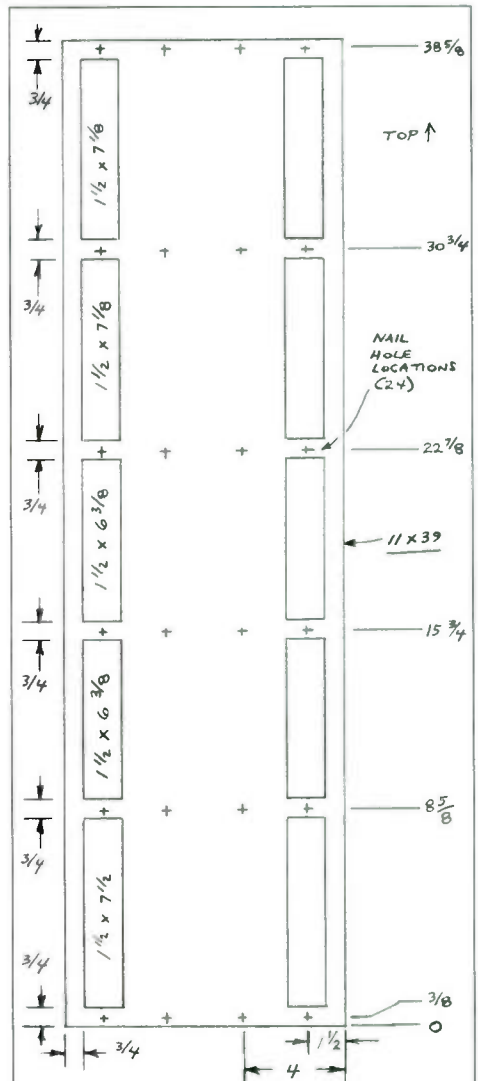

FIGURE 10: Side-panel assembly.
5. Attach vertical runners to the side panels with glue and $1\frac{1}{4}$ " 3d nails (see *Fig. 10 and Photo 4*). Use two nails across the runners' width, spaced about every 2" or 3". After attaching them, you may need to file or sand the ends of the runners at the shelf slots to ensure the shelves will fit into the slots without being too tight.